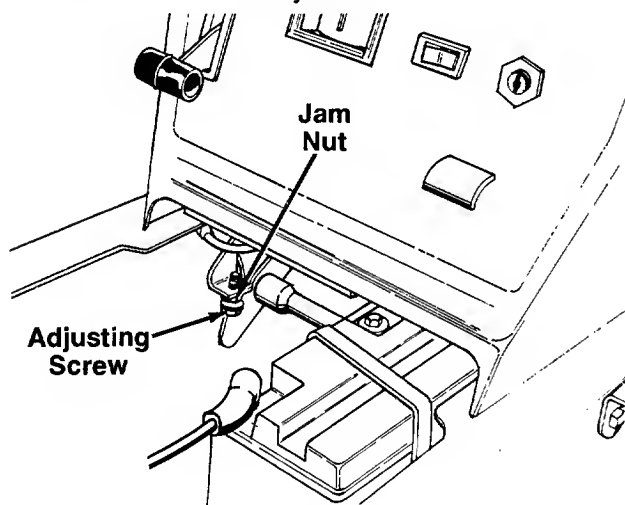

FIGURE 17.
2. Using a 1/2" wrench, loosen the jam nut. See figure 17.